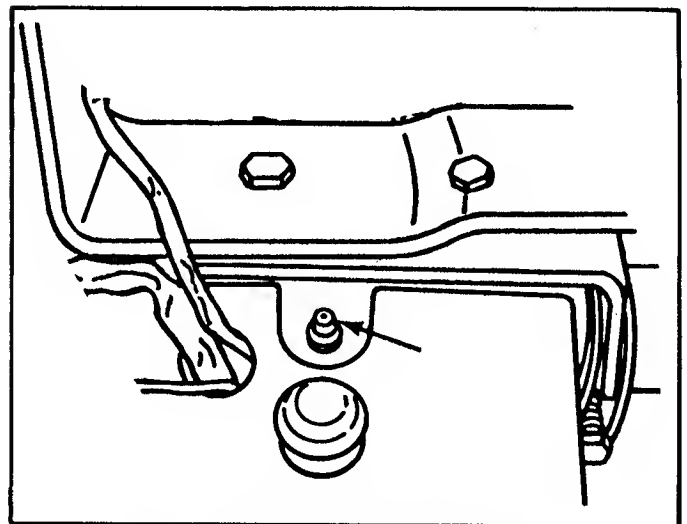

FIG. 4 — MAIN TUBE PIVOT LUBE
- **MAIN TUBE PIVOT:** Lubricate through fitting (figure 4. ) with 2 shots of grease.